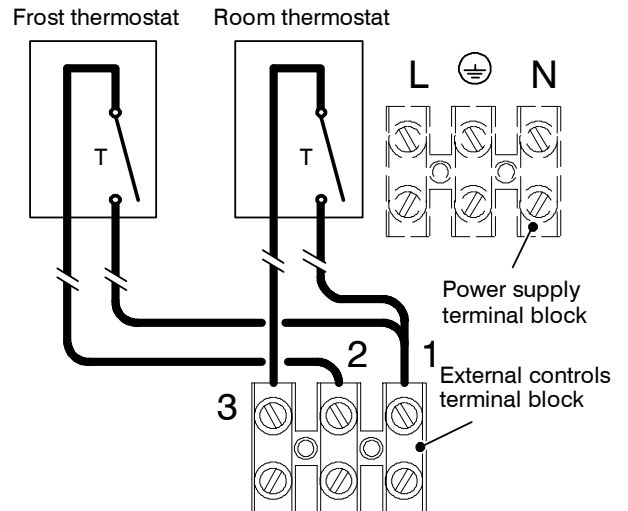

Fig. 6.17
- 10 Connect the frost thermostat between terminals 1 and 2 as shown in Fig. 6.17. **Do not connect live wires to terminals to which the room thermostat must be connected.**